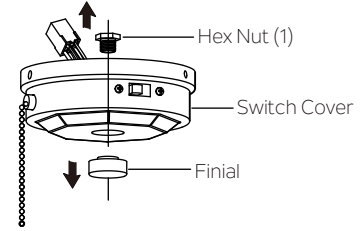

Fig. 21
Step 1. Remove the hex nut (1) and finial located in the bottom of the switch cover by using a tooling. (Fig. 21) Keep them for future use.